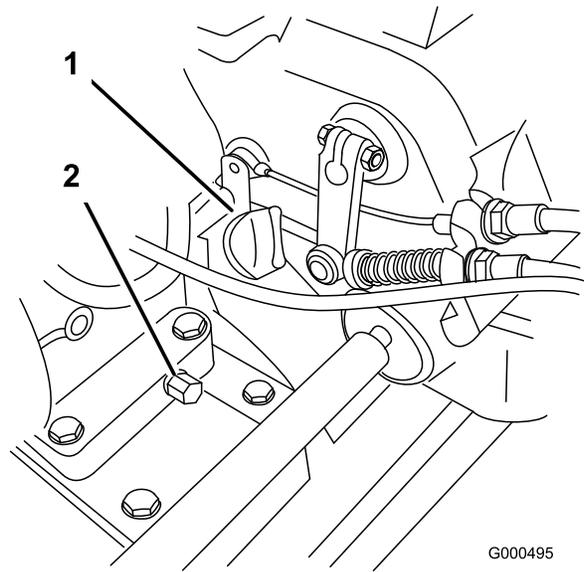

Figure 25
1. Remove the transport wheels (if installed), position the mower so the engine is level and clean around oil level gauge (Figure 25).
2. Place a drain pan at rear of machine under drain plug (Figure 25). Remove drain plug.